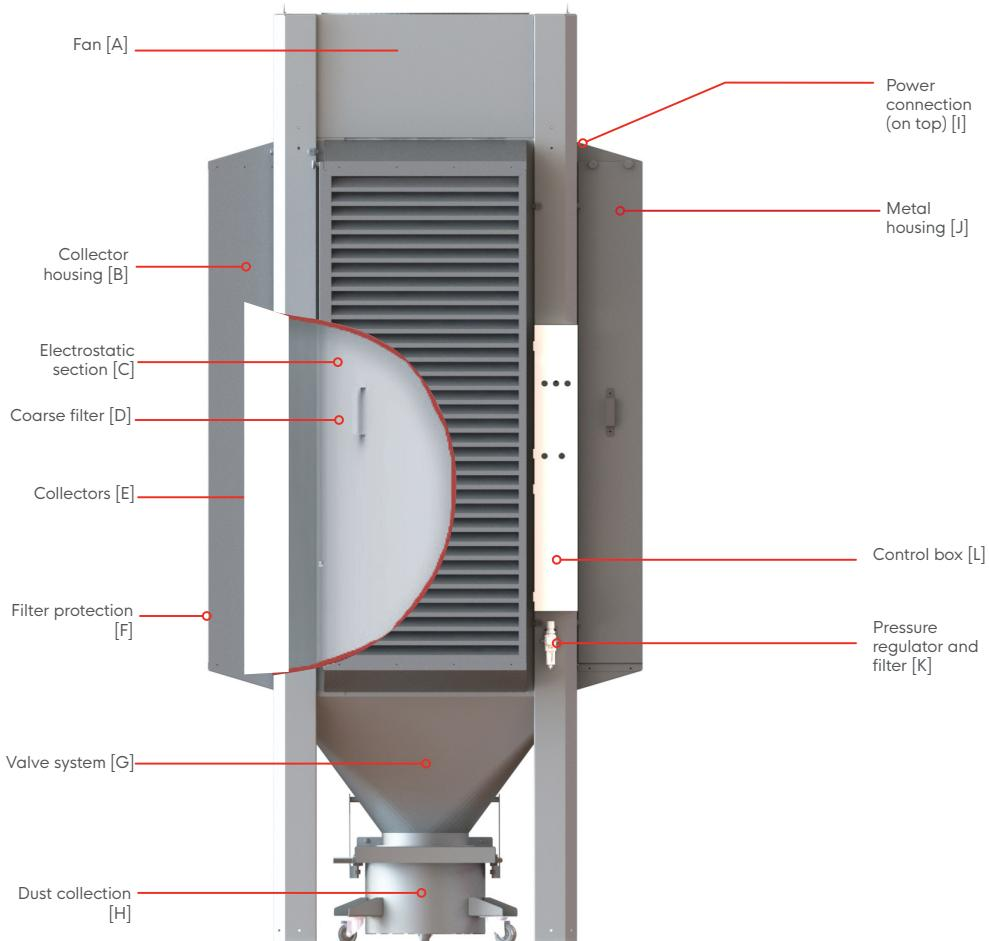

Figure 3.4: Main parts E-PURE ASPRA P10000-4C
6. Check that the pressure regulator figure 3.4 [K] is set to 6 bar (4C model only)